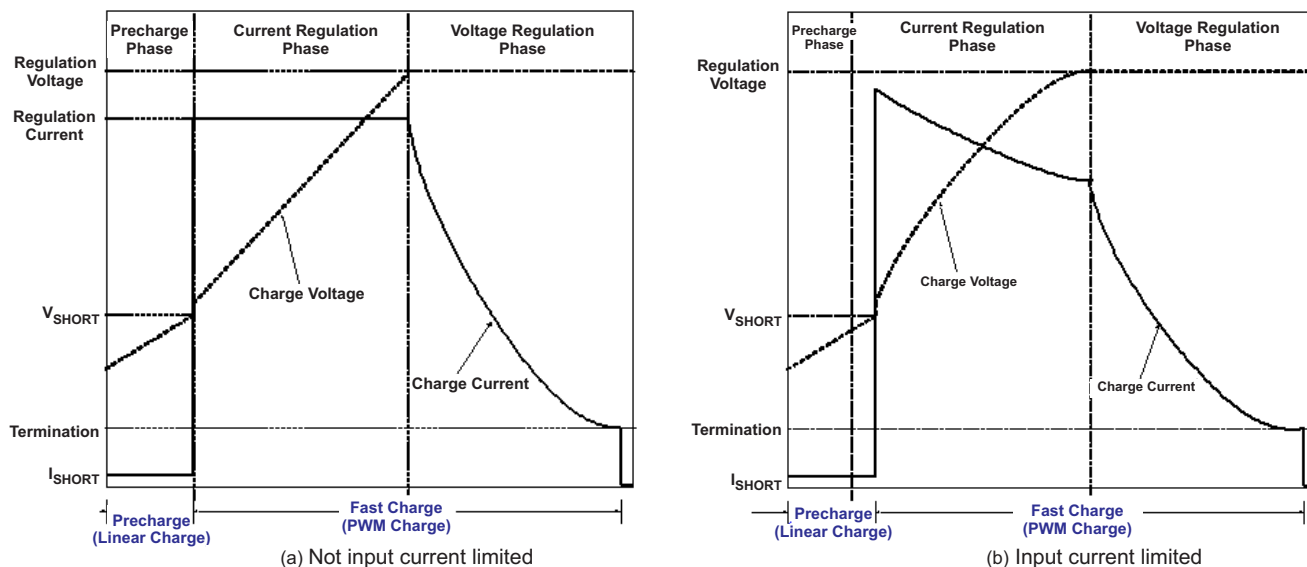

Figure 2. Typical Charging Profile of bq24273
There are 5 loops that influence the charge current; constant current loop (CC), constant voltage loop (CV), thermal regulation loop, input current sense loop and input voltage dynamic power management loop (VIN-DPM). During the charging process, all five loops are enabled and the one that is dominate takes control. The bq24273 supports a precision LiFePO₄, Li-Ion or Li-Polymer charging systems for single-cell applications. Figure 2 shows a typical charge profile.
When the battery is deeply discharged or shorted ($V_{BAT} < V_{BATSHRT}$), the bq24273 applies a 50mA current to close the pack protector switch and bring the battery voltage up to acceptable charging levels. Once the battery rises above $V_{BATSHRT}$, the charge current is regulated to the value set in the I²C register. If the die temperature does heat up, the thermal regulation circuit reduces the charge current to maintain a die temperature less than 125°C. The slew rate for fast charge current is controlled to minimize the current and voltage over-shoot during transient. The charge current is regulated to $I_{OCHARGE}$ until the battery is charged to the regulation voltage. Once the battery voltage is close to the regulation voltage, V_{BATREG} , the charge current is tapered down as shown in Figure 2. The voltage regulation feedback occurs by monitoring the battery-pack voltage between the BAT and PGND pins. The bq24273 is a fixed single-cell voltage version, with adjustable regulation voltage (3.5V to 4.44V) programmed using the I²C interface.